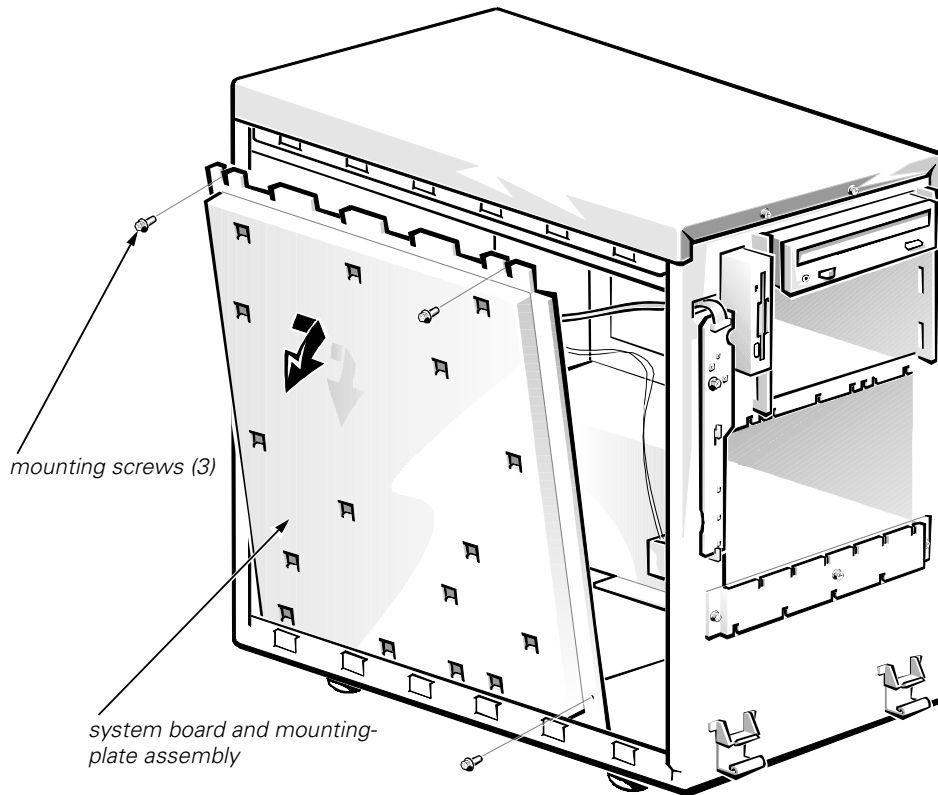

Figure 1-1. Removing the System Board Assembly
- f. At the left side of the system, locate and remove the three screws that secure the system board and mounting plate to the chassis (see Figure 1-1).